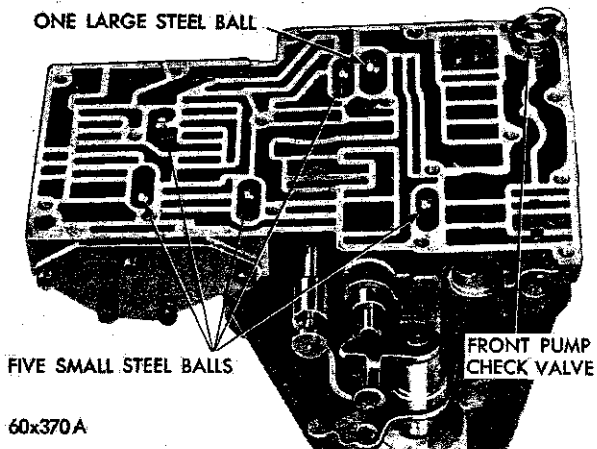
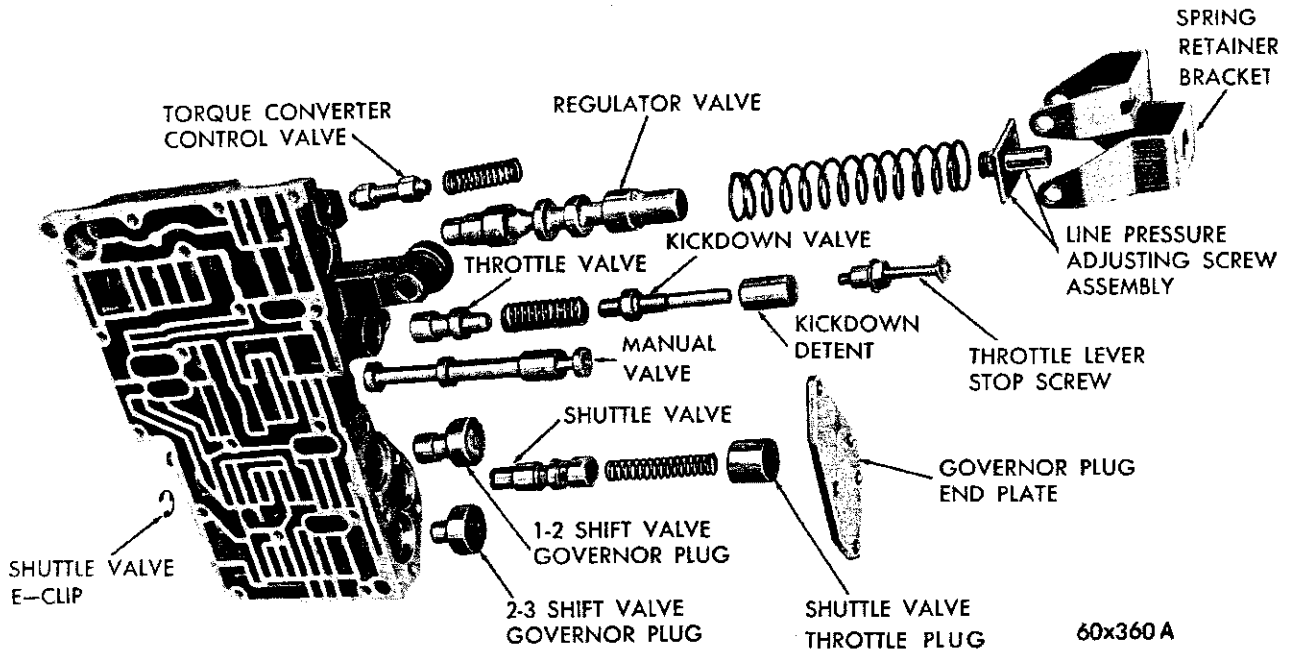
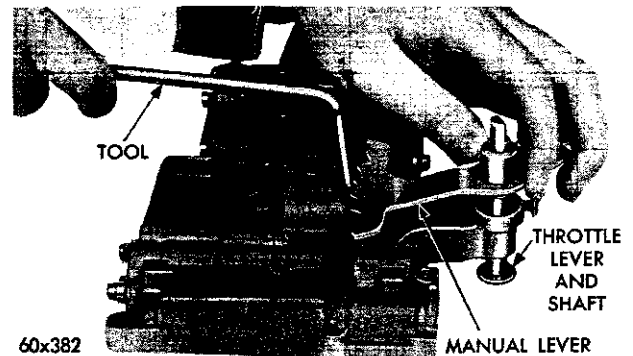

Fig. 56—Front Pump Check Valve and Steel Ball Locations
Fig. 58—Valve Body—Lever Side (Disassembled View)
Fig. 60—Installing Detent Ball, Spring and Manual Valve
(7) Remove the reverse blocker valve cover and lift out the spring and valve.
(8) Note location of the six steel balls in the valve body, one of them is larger than the other five and is in the larger chamber (Fig. 56). Remove the steel balls, front pump check valve and spring.
(Fig. 58), be careful not to disturb the setting any more than is necessary.
(14) Remove the kickdown detent, kickdown valve, throttle valve spring and the throttle valve (Fig. 58).
(15) Remove the governor plug end plate (Fig. 58). Tip up the valve body to allow the shuttle valve, throttle plug, spring, shuttle valve, and the shift valve governor plugs to slide out into your hand.
(3) Place the 1-2 and 2-3 shift valve governor plugs in their respective bores (Fig. 58). Install the shuttle valve, spring and shuttle valve throttle plug. Install the governor plug end plate and tighten the five retaining screws to 28 inch-pounds torque.
(4) Install E-clip on end of the shuttle valve (Fig. 58). Install the shuttle valve cover plate and tighten the four retaining screws to 28 inch-pounds torque.
(7) Install the throttle valve and spring (Fig. 58).
(8) Install the throttle lever stop screw (Fig. 58), and tighten lock nut finger tight.
(9) Install the manual valve in the valve body (Fig. 58).
(10) Install the throttle lever and shaft on the valve body (Fig. 60). Insert the detent spring and ball in its bore in the valve body. Depress the ball and spring with Tool C-3765 or similar tool and slide the manual lever over the throttle shaft so that it engages the manual valve and detent ball. Install the retaining E-clip on the throttle shaft.
(11) Position the valve body assembly on the holding stand.
(12) Place the six steel balls in the valve body chambers with large ball in the large chamber (Fig. 56). Place the front pump check valve and spring in valve body.
(13) Position the transfer plate assembly on the valve body. Hold the front pump check valve in its bore with a thin steel scale. Install the 14 retaining screws, starting at the center and working outward, tighten the screws to 28 inch-pounds torque.
(14) Install the torque converter valve and the regulator valve. (Fig. 58).
(15) Position the torque converter valve spring and regulator valve spring over the ends of their respective valves. Place the line pressure adjusting screw assembly on the end of the regulator valve spring with long dimension of nut at right angles to the valve body.
(16) Install the spring retainer bracket, making sure the converter valve spring is engaged on the tang and position squarely in the bracket. Tighten the three bracket retaining screws to 28 inch-pounds torque.
(17) Install the oil strainer and tighten the three retaining screws to 28 inch-pounds torque.